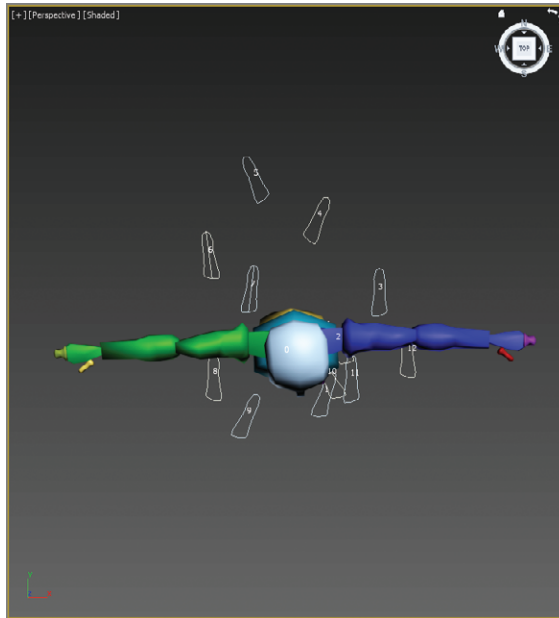

FIGURE 13.8 Manually place the footsteps in the Top viewport.
5. When you are done, use the Move and Rotate transforms to adjust the footstep locations and orientations as desired. Your Top viewport should look similar to Figure 13.8.